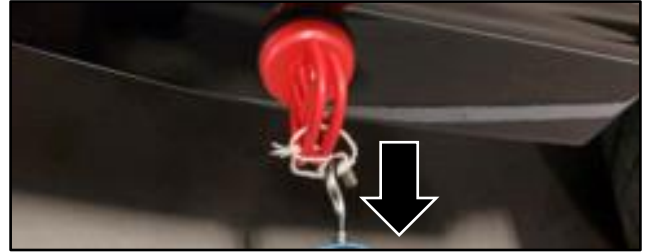

Figure 6
- Pull the weighing scale until a minimum force of 12.75kg or 125N is shown (refer to Figure 6). The door cladding must not detach to pass this test.